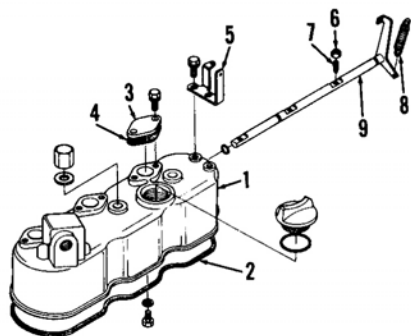

Fig. 13—View of valve cover and compression release components.
21. **ADJUSTMENT.** All models are equipped with a compression release. The compression release holds the exhaust valves open slightly when compression release lever (9—Fig. 13) is rotated to applied position by actuator cable.